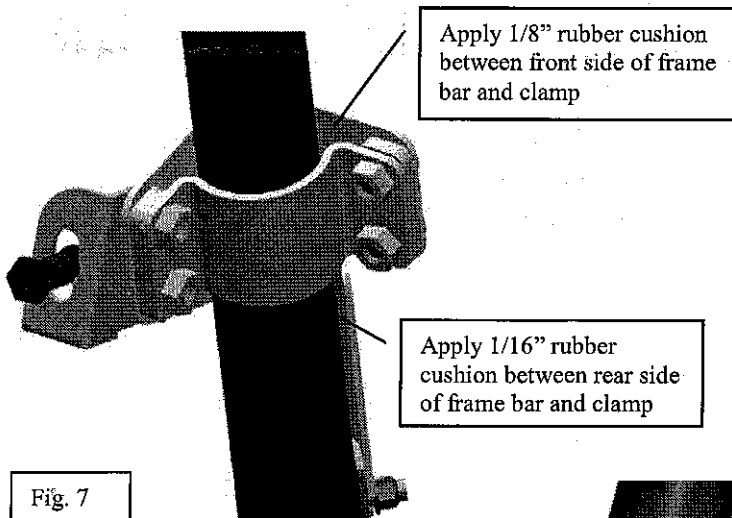

Fig. 7
3. Align the inner tube clamp with the driver striker mount bracket as shown in Fig. 7. Apply 1/16" rubber cushion in between the inner tube clamp and the frame bar.